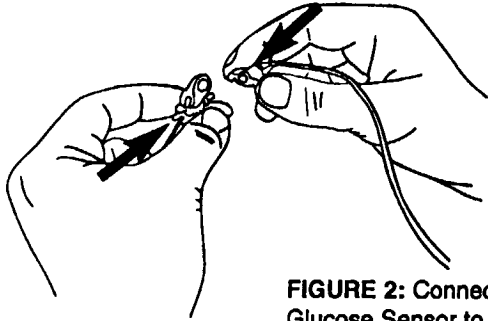

FIGURE 2: Connect the Glucose Sensor to the Cable
1. **How to connect the Glucose Sensor to the Cable:** Make sure the Needle Guard remains over the Glucose Sensor to maintain its sterility. Grasp the Sensor Assembly Base between the thumb and forefinger. Hold the Sensor Connector in the other hand. Orient the Glucose Sensor Assembly so that the two connectors align in close proximity. Plug the Glucose Sensor Assembly into the Sensor Connector. Press the parts together until the snap arms on the Glucose Sensor Assembly engage with a click (Figure 2).